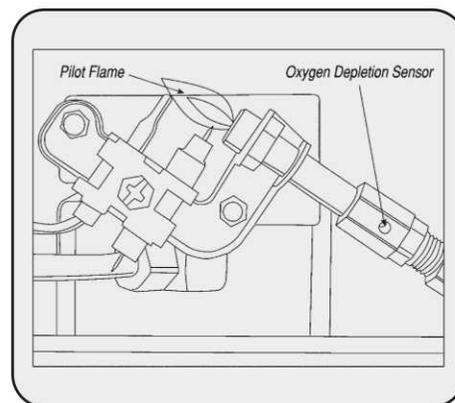

Figure 5
pilot flame should be blue in color (not yellow) and will extend to the thermocouple. The flame will surround the thermocouple just below the tip. See Figure 5.
7. Inspect and clean pilot (mounted to bracket) by using a vacuum or apply air pressure through the holes in the pilot indicated by the arrows in Figure 5.
- If the heater is to left "OFF" for a considerable period of time, the propane (LP) gas supply to the heater should be turned off as close to the gas source as possible. In the case of portable use, the gas should be turned off at the propane (LP) gas supply cylinder.
- If the heater is put into storage, make sure to disconnect the propane (LP) gas cylinder.